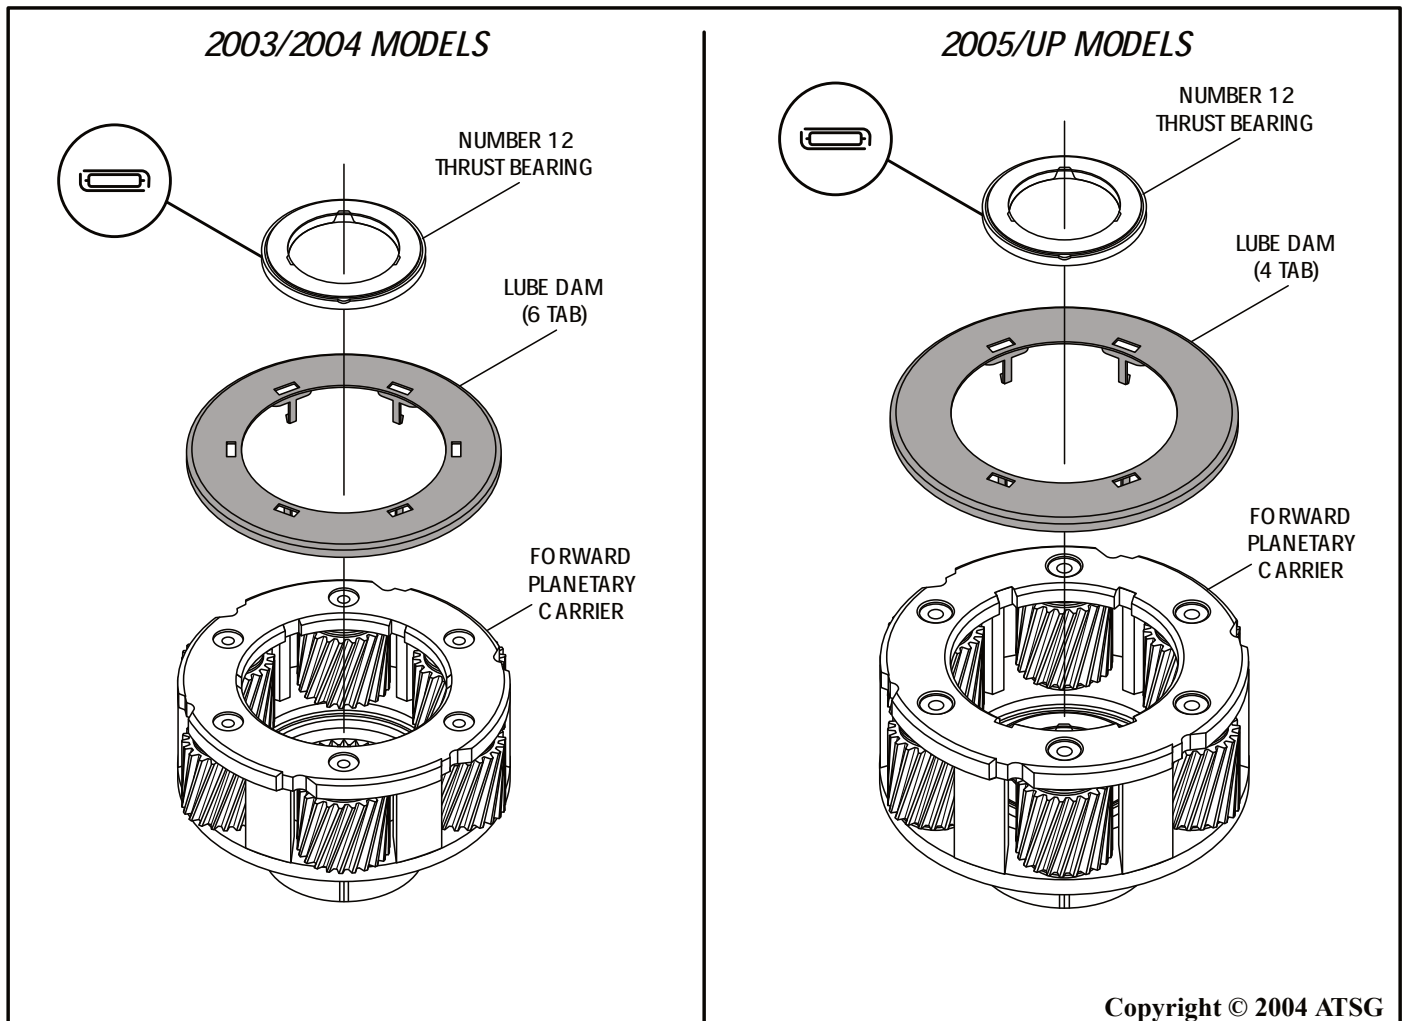

Figure 140
6. If removed, install the proper forward planetary lube dam, as shown in Figure 140, and ensure that all tabs are snapped into position.
7. Install the number 12 thrust bearing into the forward planetary carrier, in the direction that is shown in Figure 140.